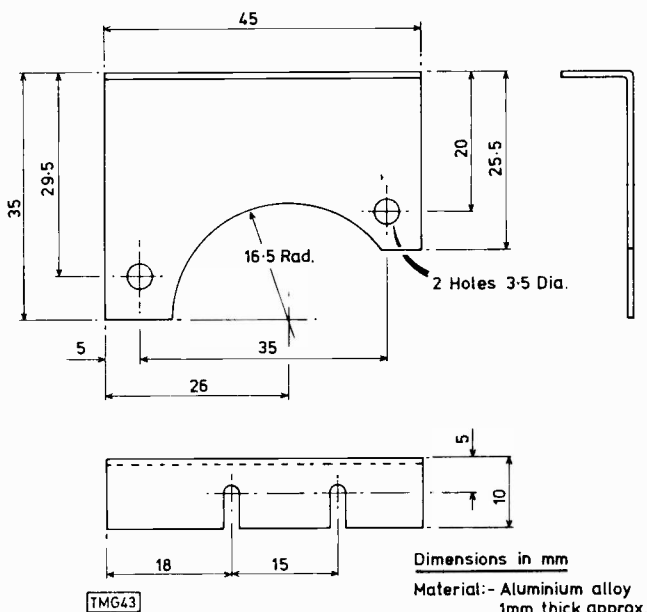

Fig. 4: Servo head bracket. Mounting slots are 2mm wide.
Next to the extra servo head required. Make a bracket (see Fig. 4) and attach the head as shown in photo 9 – in series with the existing head. If care is taken in aligning the new bracket when mounting it on part 521 (520), no further adjustments will be required.